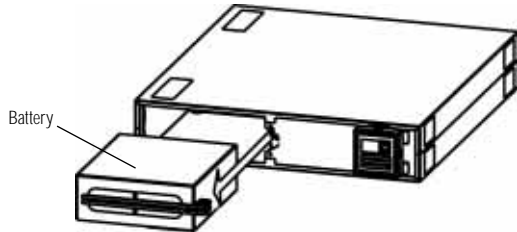

Fig. 6: Removing the Battery
4. Slide battery out (fig. 6).